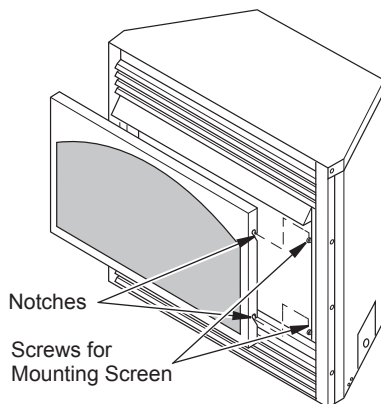

Figure 26 - Installing Fireplace Screen
7. Install fireplace screen by slipping notches of fireplace screen over screws on front of fireplace (see Figure 26).